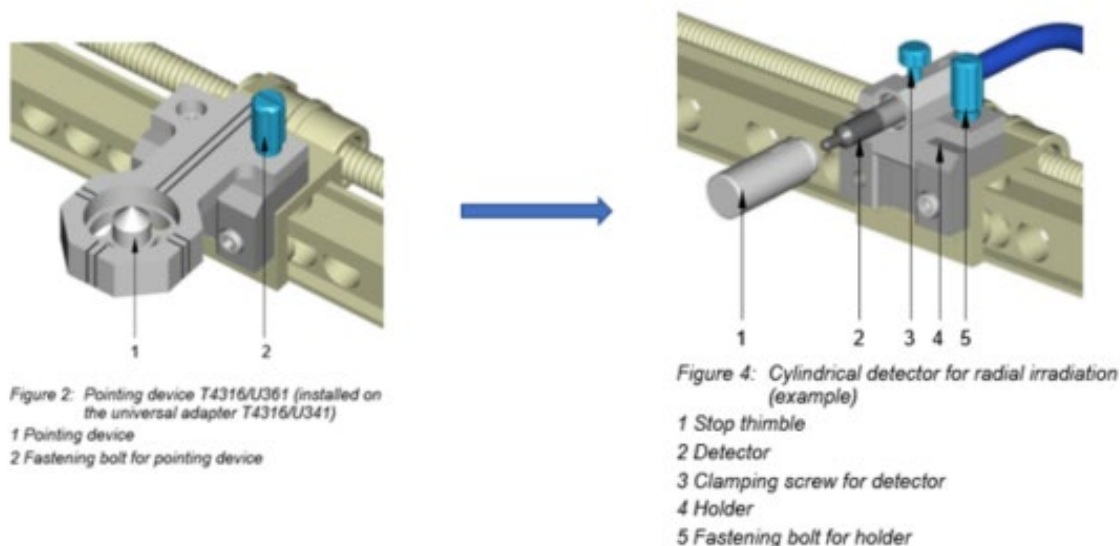

Figure 1-23. PTW 31022 Ionization Chamber
8. Replace the pointing device with PTW 31022 ionization chamber (see Figure 1-23).